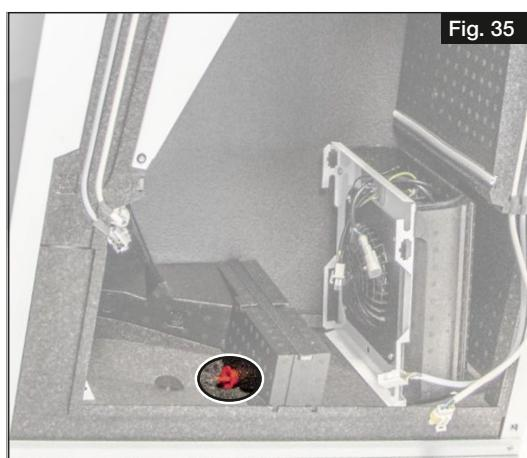

Fig. 35
① **If the cold recovery system is activated, the plug at the bottom of the unit must be removed (see Fig. 35) to ensure the condensate drainage (cf. also chapter 4.3 „Install ball siphon“, page 10).**